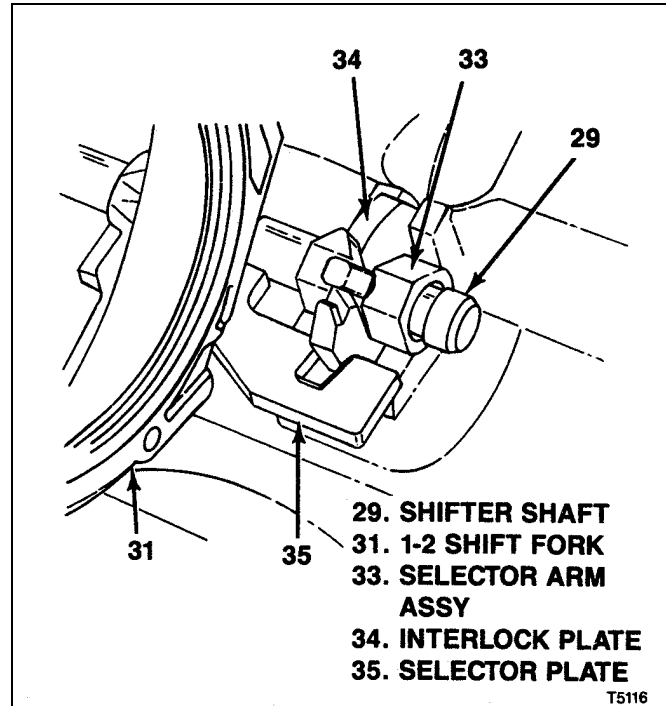

Figure 6-17. Installing T5 WC Selector Arm and Interlock Plate
- f. Align gap in interlock plate (34) with projection on selector arm assembly (33) and install these parts in semi-circular groove in case cover (38). Continue to push in shifter shaft (29) until it is just through selector arm assembly (see figure 6-17).